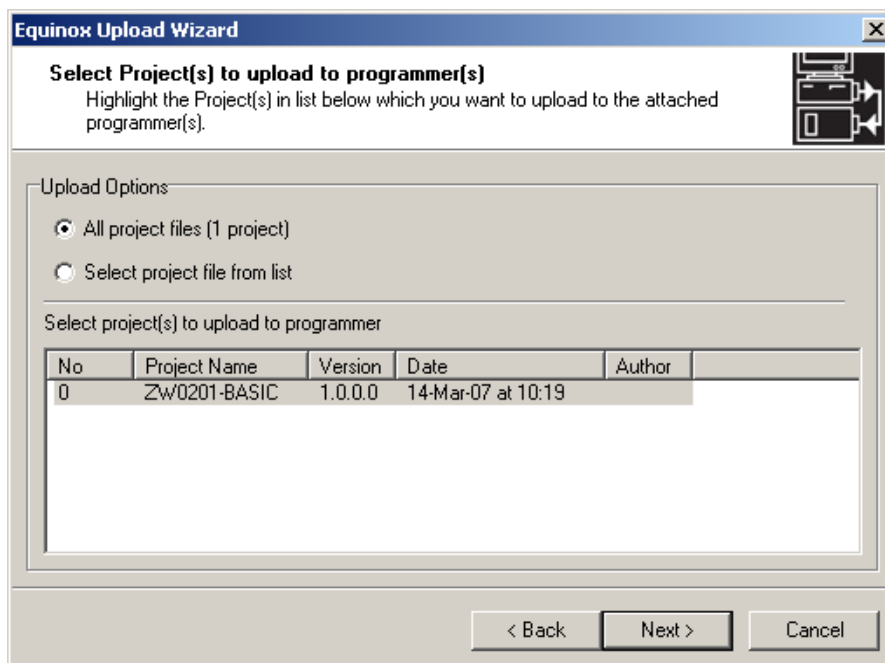

Figure 22 Programmer Upload Wizard – Select Project
- Select the Project Collection file to be uploaded (if not already set) by using the *Browse...* button. Then press *Next* and the window depicted in Figure 22 will open.